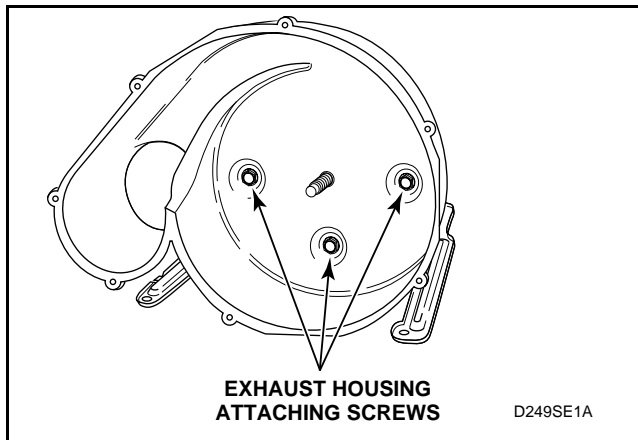

Figure 29
- (3.) Remove three screws holding the exhaust housing to the motor mounting bracket. See Figure 29.